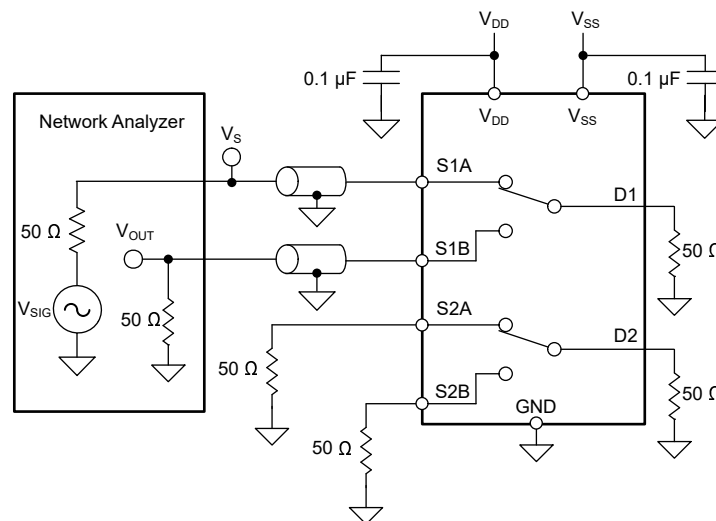

Figure 7-15. Intra-Channel Crosstalk Measurement Setup
1. Intra-channel crosstalk ($X_{TALK(INTRA)}$): the voltage at the source pin (Sx) of an off-switch input, when a $1-V_{RMS}$ signal is applied at the source pin of an on-switch input in the same channel, as shown in Figure 7-15.